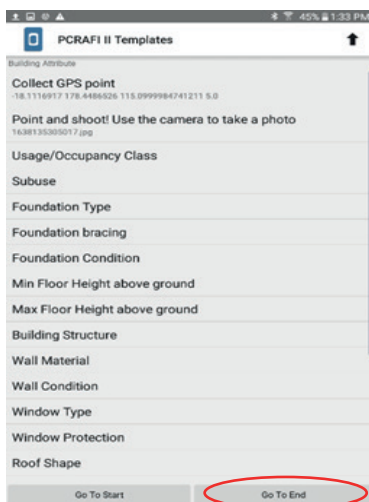

Figure 50: KoBoCollect App - Completing the Form
1. Once data collection is completed; in order to complete the form, the user can save the form and exit. This can be done by clicking on the “Go To End” tab, or by manually swiping through all the templates. (Figure 50)